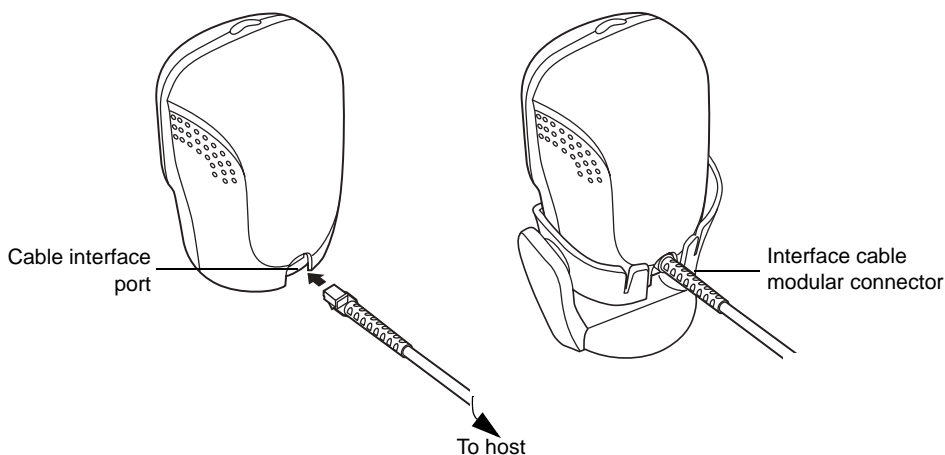

Figure 1-2. Installing the Interface Cable
2. Plug the interface cable modular connector into the interface cable port on the rear of the LS 9208 (See Figure 1-2.)